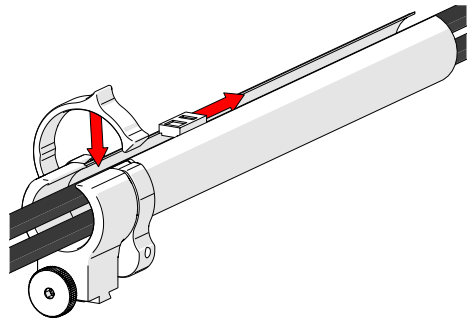

Fig. 179 - Zip up to close
2. Follow the cable placement zipping the tube closed (*Fig. 179*).